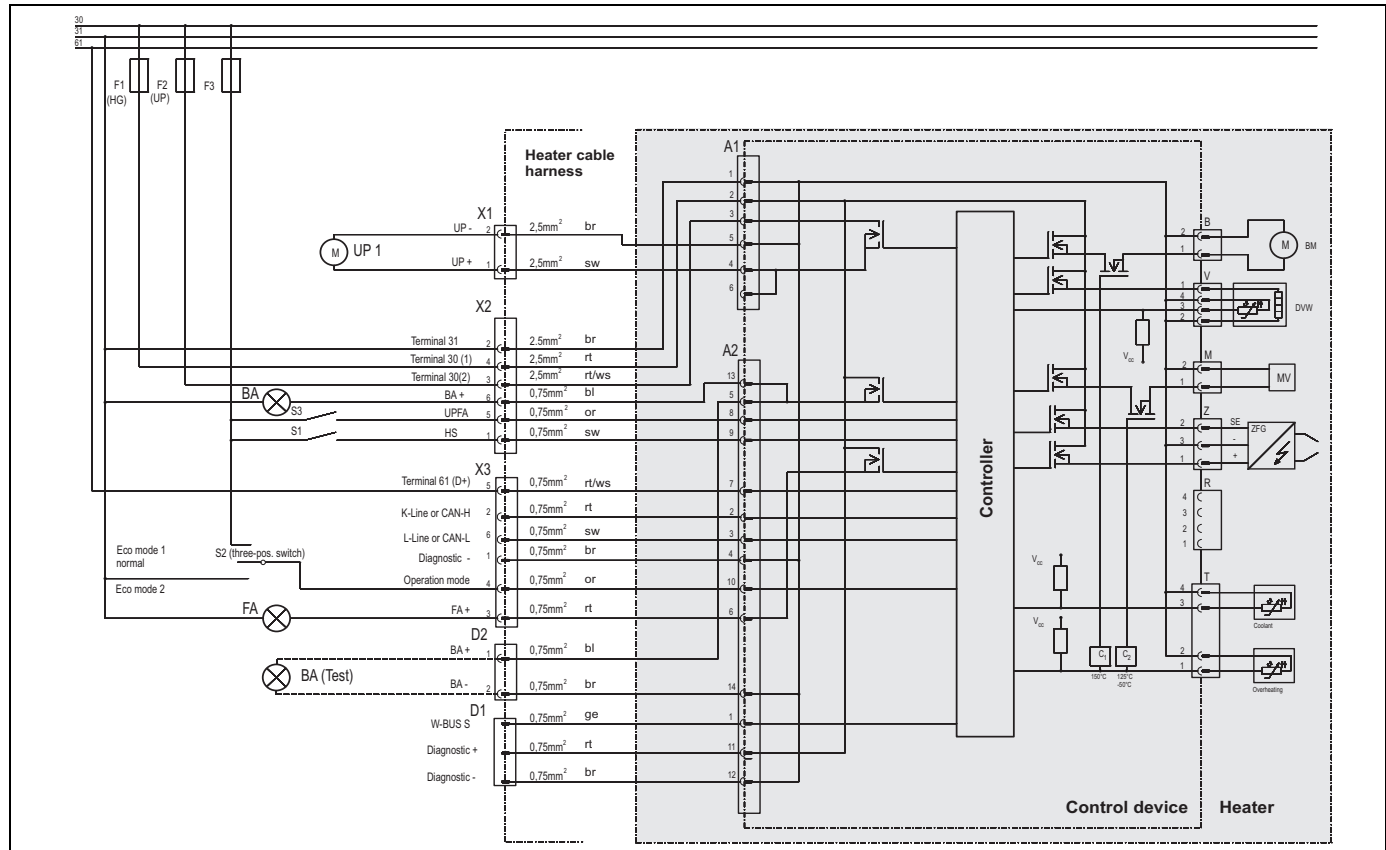

Fig. 6: System wiring diagram for the Diesel burner head of the Thermo H, legend see page 58.
The hook-up of the Diesel burner head is to be performed acc. to the fig. 6: system wiring diagram.
- Switch, see system wiring diagram Figure 6
The hook-up of the economy mode switch is shown in the system wiring diagram, figures 6 and 7.